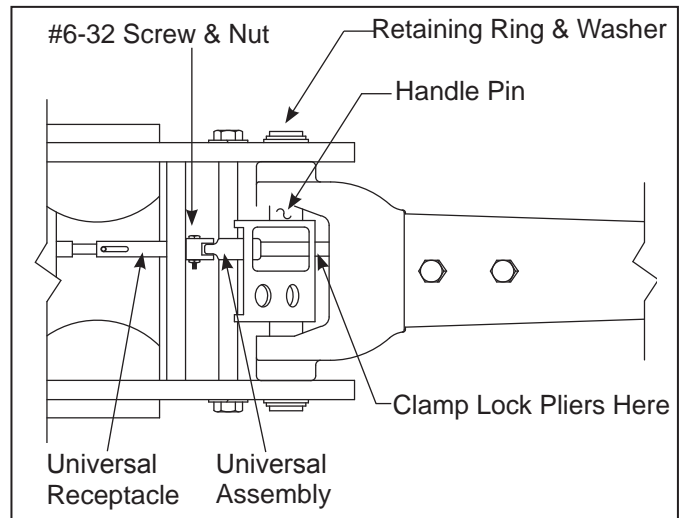

Figure 1- Assembly Illustration for HW93657 & HW93667
1. For HW93657 and HW93667: (see figure 1) Remove the retaining rings and the handle pin from the jack base that connects through the handle fork.